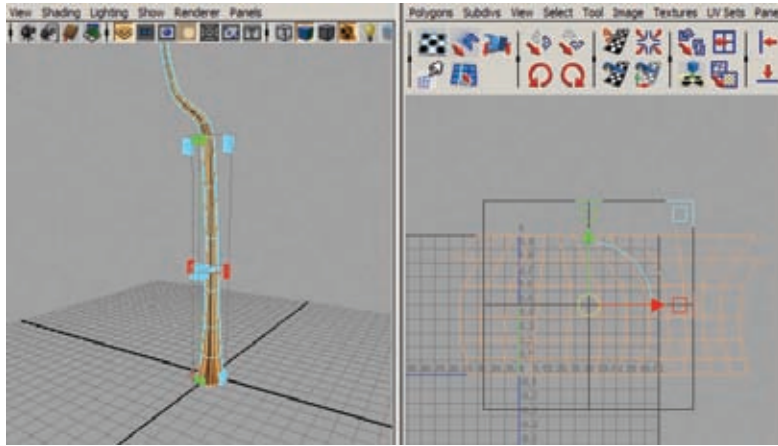

Figure 2.38
2. Under the Polygons menu set, select Create UVs → Cylindrical Mapping. A cylinder-shaped manipulator will appear around the tree trunk and the selected faces will appear in the UV Texture Editor window. You should see something like Figure 2.38.